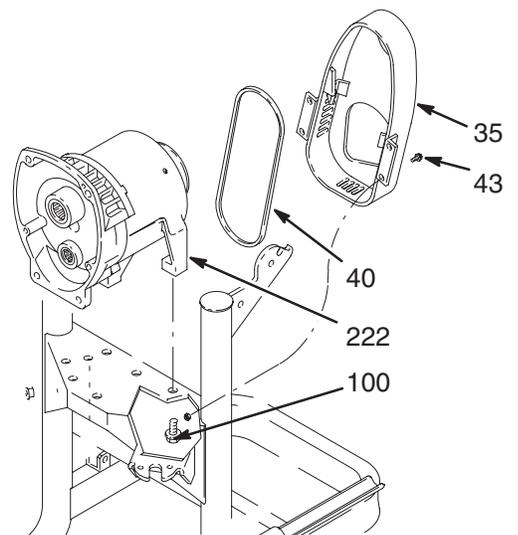

Fig. 15
2. Remove the screws (43) and belt guard (35). Remove the belt (40). See Fig. 15.
3. Remove the clutch housing (222) by removing screws (100) from below the cart. See Fig. 15.